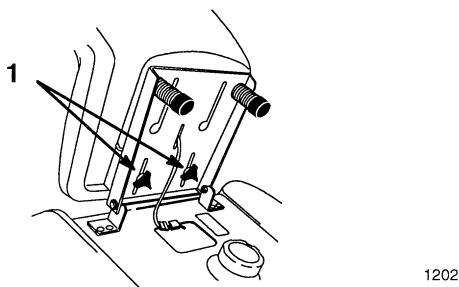

Figure 11
1. Raise the seat and loosen the adjustment knobs (Fig. 11).